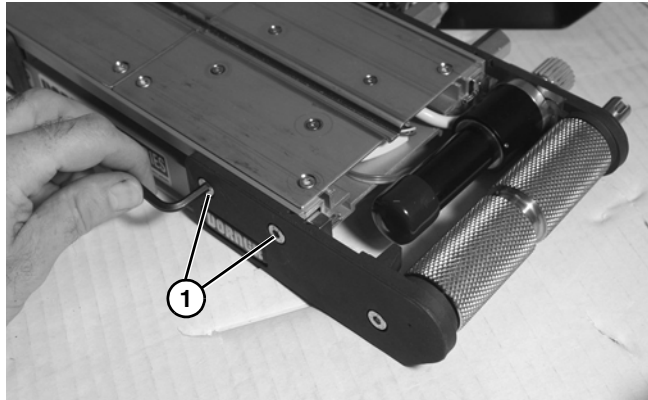

Figure 54
9. Remove two head plate fastening screws (**Figure 54, item 1**) from opposite side of conveyor.